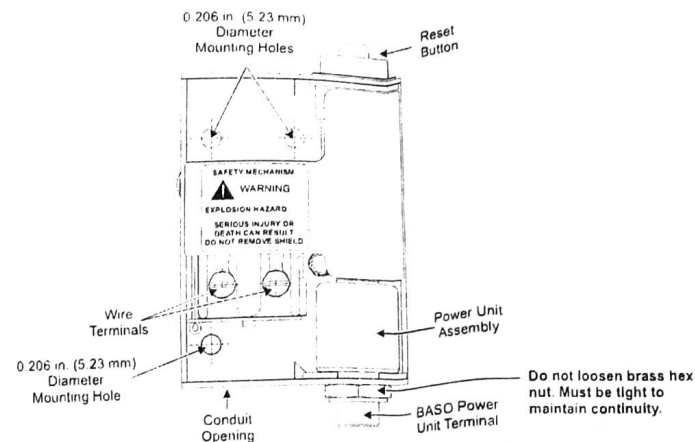
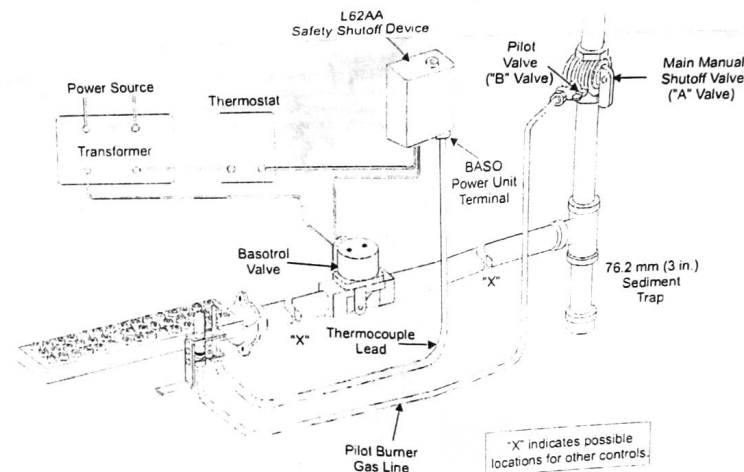

Figure 1: View of the L62AA Without the Cover
Figure 2: Typical L62AA Installation
4. Mount the L62AA in any convenient position using the mounting holes provided. See Figure 1 for mounting hole locations.
5. Push the circuit wires through the conduit opening on the bottom of the L62AA, strip the ends of the wires just enough to put the bare wire under the terminal screws, and attach them to the two wire terminals (see Figure 1).
7. Attach the thermocouple securely to the pilot burner, and screw the terminal end to the BASO power unit terminal on the L62AA (see Figure 1 and Figure 2). Make sure that this connection is clean. Tighten the thermocouple lead nut finger tight plus a maximum of 1/8 turn. Do not overtighten.
3. Close the main manual shutoff valve ("A" valve) and the pilot valve ("B" valve [see Figure 2]) and wait at least five minutes for unburned gas to escape from the appliance.